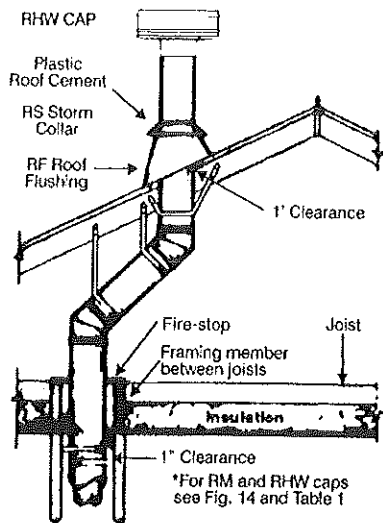

Figure 11
- (A) Whenever possible, a vertical vent should be used. This is done by simply using straight sections of pipe from the draft hood connector out through the roof. Where this is not possible, a vent connector using B-Vent is used to run laterally from the draft hood to the base of the vertical vent. The horizontal length of this vent connector should not exceed 1½ feet for each inch of connector diameter. If it is necessary for B-Vent connector to pass through a partition, an RVT thimble may be used, or the wall framed to allow 1-INCH CLEARANCE and an RPC collar used on each side of the partition. When a vent connector is used, it should have as much vertical rise as possible BEFORE the horizontal run. Vent connectors attached directly to side outlet draft hoods, such as floor furnaces, shall be pitched upward at least ¼ inch per foot. The lateral run of vent connectors attached to top outlet draft hoods may be either horizontal or pitched upward.
- (B) The necessary straight lengths of pipe should be connected to the elbow, tee, or the draft hood connector, and all joints should be securely locked together as indicated above.
- (C) Floors, ceilings, and other combustible construction should be cut away or framed as necessary to provide a MINIMUM OF 1-INCH CLEARANCE from the surface of the vent pipe. Metal straps should be used to maintain the vent pipe in position to ensure that the 1-INCH CLEARANCE to combustibles is maintained after the walls are closed (Figure 11). DO NOT SCREW INTO THE VENT.
(D) Whenever possible, the vent should be continued straight out through the roof. If it is necessary to make offsets in the attic space, the lateral run should be sloped upward as sharply as possible, using elbows to minimize resistance. The lateral run should be supported using metal straps, and again maintaining the **MINIMUM CLEARANCE OF 1 INCH** from combustibles (Figure 11).
□ In many instances, vents pass through ceilings that are insulated. In these cases, it is necessary to frame around the opening cut in the ceiling for passage of the vent pipe so that building insulation or other combustible material will not come in contact with the surface of the vent. This framing should, of course, be arranged to **PROVIDE 1-INCH MINIMUM CLEARANCE** from the surface of the vent (Figure 11).